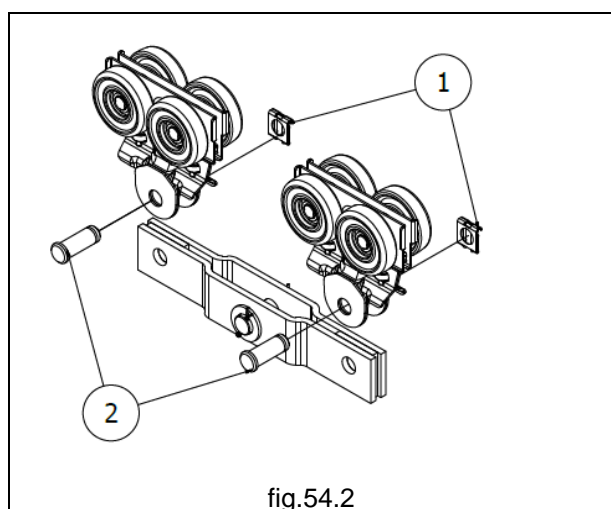

fig.54.2
3. Insert the connection bracket inside the trolley plates. See figure 54.2
4. Reassemble the suspension pins **2** and block them with the clips **1**. See figure 54.2